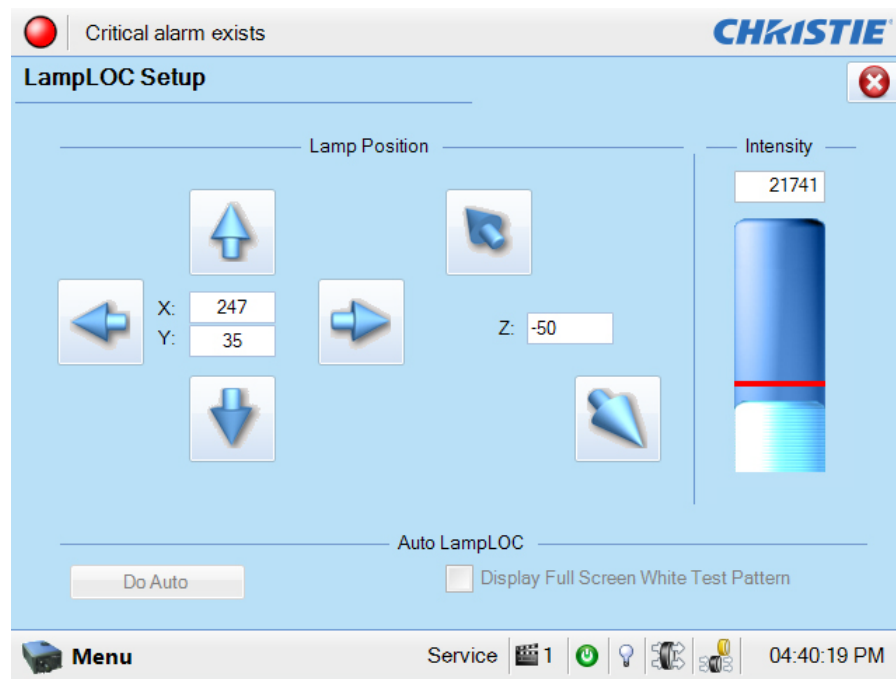

Figure 3-4 Adjust Lamp Position
1. Navigate to the **Advanced Setup: LampLOC Setup** window. (Figure 3-4)